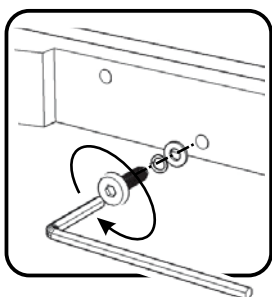

Figure 4
Attach Back Frame (D) to unit with Flat Washers, Spring Washers, Head Cap Bolt (short), Head Cap Bolts (long), tightening bolts only halfway. (See Figures 4 and 5)